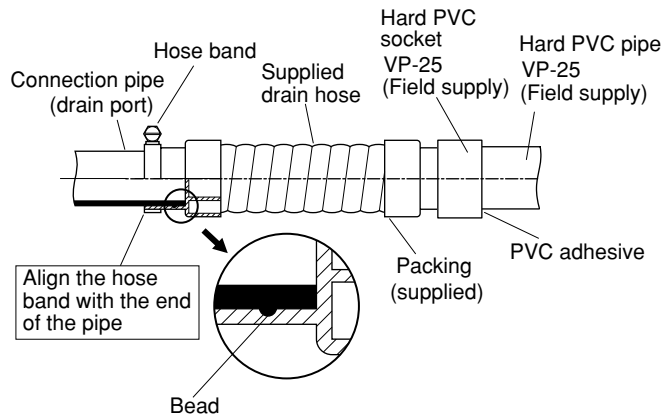

Fig. 3-6
- (1) Prepare a standard hard PVC pipe (O.D. 32 mm) for the drain and use the supplied drain hose and hose band to prevent water leaks. The PVC pipe must be purchased separately. The unit's transparent drain port allows you to check drainage. (Fig. 3-6)
- Insert the drain pipe until it contacts the socket as shown in Fig. 3-6, then secure it tightly with the hose band.
- Align the hose bands with the end of the hose. Tighten the hose band firmly. Make sure that the bead is not covered by the hose band. (Fig. 3-6)
Tighten the hose clamps so their locking nuts face upward. (Fig. 3-6)